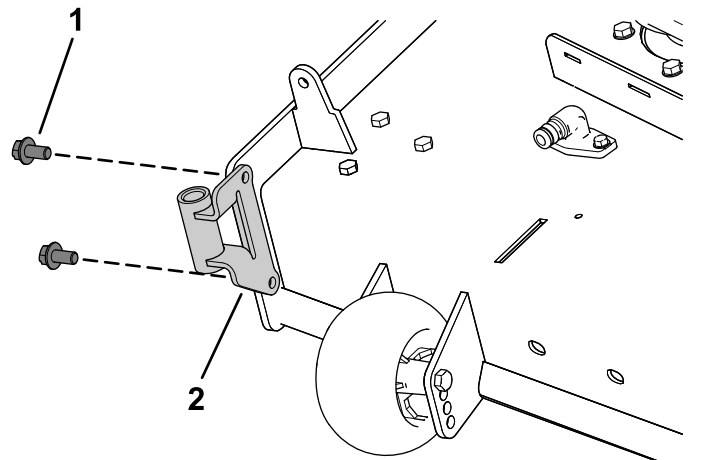

Figure 7
1. Install the blower support to the mower deck using 2 hex washer-head screws (3/8 x 3/4 inch) as shown in Figure 7.